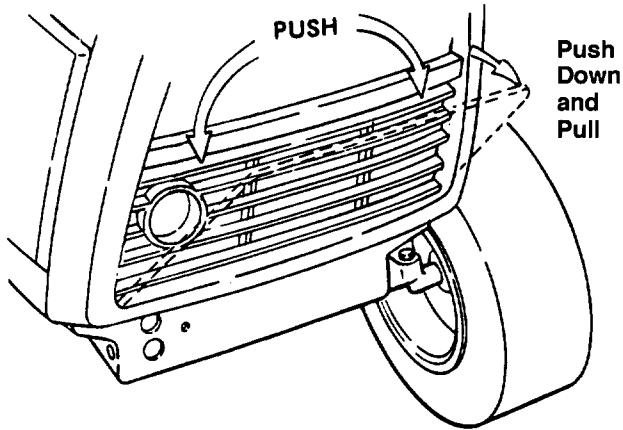

Figure 15
- a. To remove the grille insert, push downward on top of the insert and pull forward as shown in Figure 15.